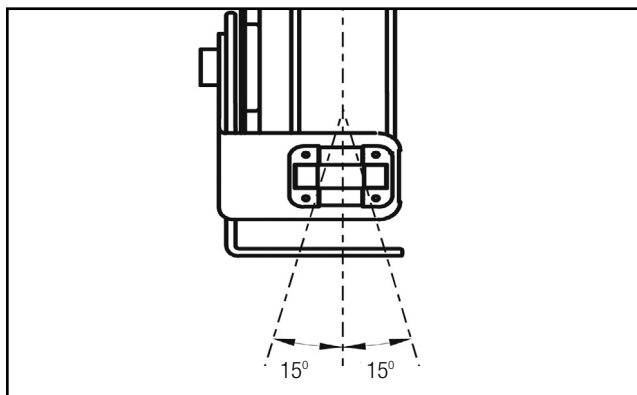

Figure 10-5 Cable Deflection with Roller Guide
2. The cable should extend perpendicular to the rotation of the spool. The total cable deflection should not exceed 15° to either side of the center line of the spool. See **Figure 10-5**.